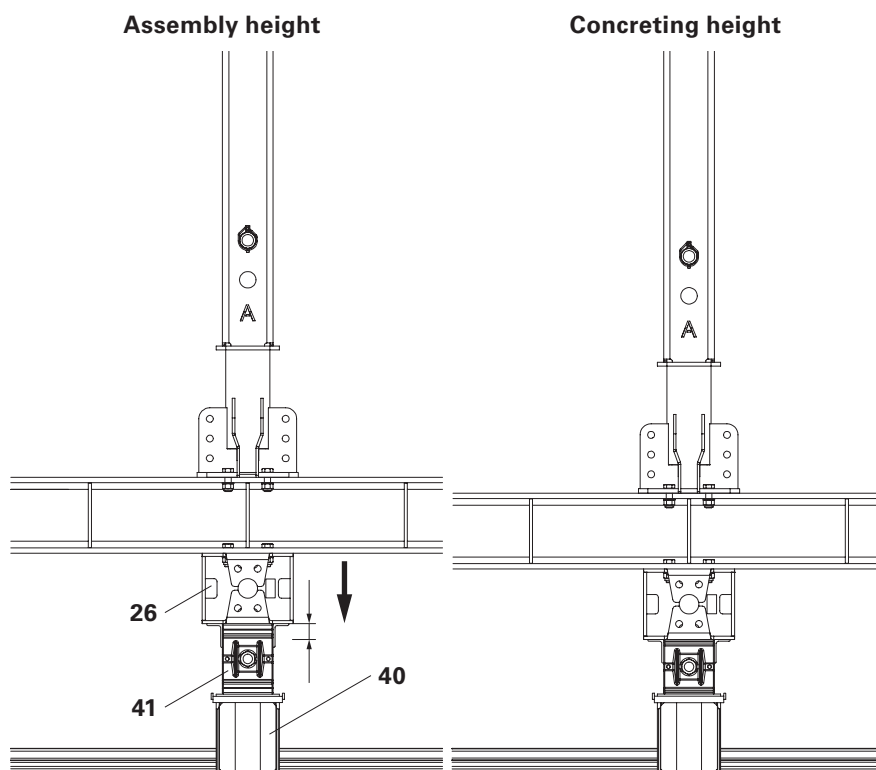

Fig. D1.02
5. Extend the lowering wedges (**41**) so that they support the weight of the tunnel formwork carriage. (Fig. D1.02)